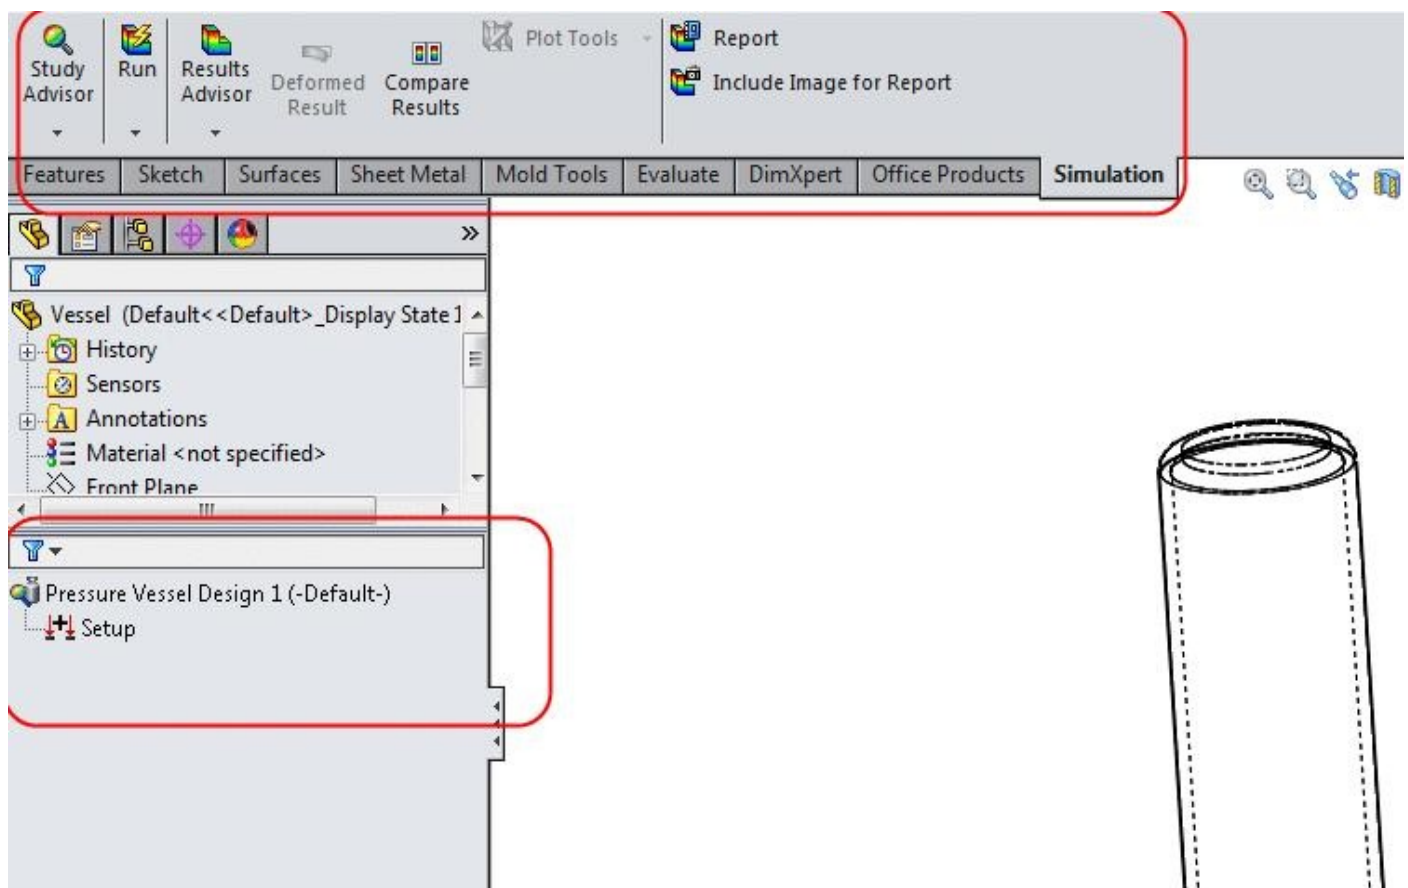

Figure-4. Tools for pressure vessel design
- Click on the **OK** button from the **PropertyManager** to display the tools related to **Pressure Vessel Design Study**; refer to Figure-4.